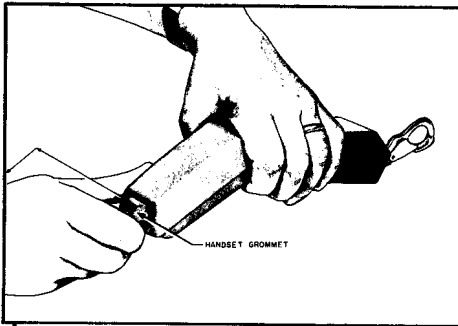
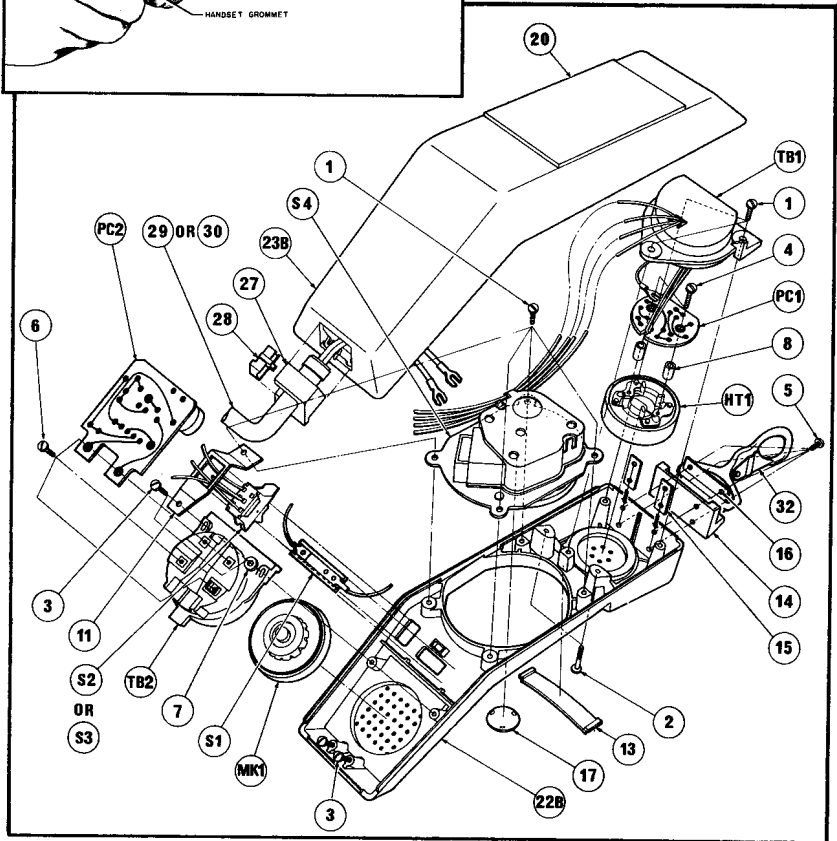

FIGURE 8. Removal of Handset Grommet
FIGURE 9. QSE4 Type Handsets—Assembly of Parts
4.02 Disassembly of handset (see Figures 8 and 9 foldouts) (circled numbers refer to Figure 9 foldout):
a. To remove the card retainer window (13), insert the tip of a 16750 L3 releaser (a paper clip may be used) into the small slotted hole at the edge of the window. Ensure that the tip does not enter the hole by more than one-eighth of an inch, as an underlying screw may hinder the lateral motion of the releaser. Apply a slight lateral pressure to the handle of the releaser. The housing projection provides a fulcrum and this will bow the window upward so that its edges may be grasped with the fingertips of the other hand to spring it out.
b. Remove the handset line cord grommet (27) and (28), by turning the handset face down and pushing the cord into the grommet to release the pressure on the inside of the grommet, then exerting a lateral pressure toward the rocker switch and an upward pressure (while retaining the lateral pressure) until the grommet comes out of the housing (see Figure 8). This grommet is in two pieces.
c. Once the grommet has been withdrawn, two screws (3) are exposed. Loosen these two screws by about three-sixteenths of an inch only, as it is not desirable or necessary to remove them.
d. Free (do not remove) the two captive screws (2) in the card retainer well. Loosen the receiver end, then slide the smooth (back) half of the handset housing back to release this section from the slotted screw holes.
#### 4.10 To convert QSE4A Type to QSE4B Type (see Figures 9 and 10 Foldouts):